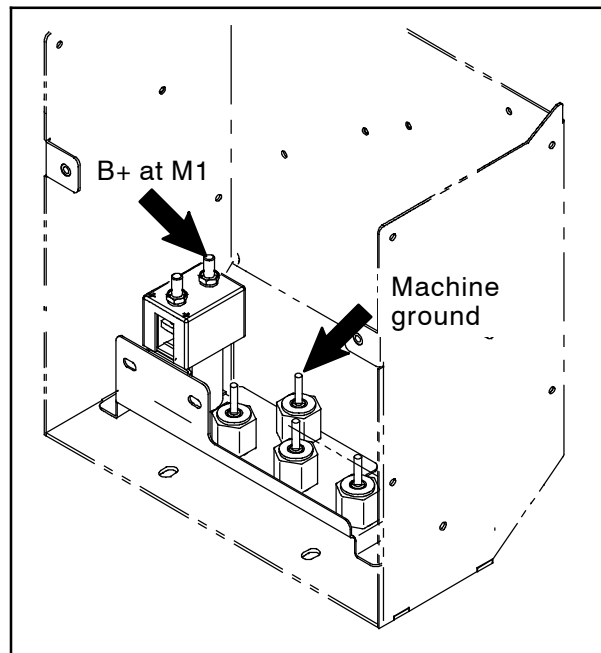

FIG. 3
11. Disconnect the existing battery cable from the B+ at M1 location on the 36 VDC contactor and the insulated rubber standoff (machine negative) inside the electrical enclosure. Set all hardware used to secure the battery cable to B+ at M1 and machine ground aside. Discard the removed battery cable. (Fig. 3)